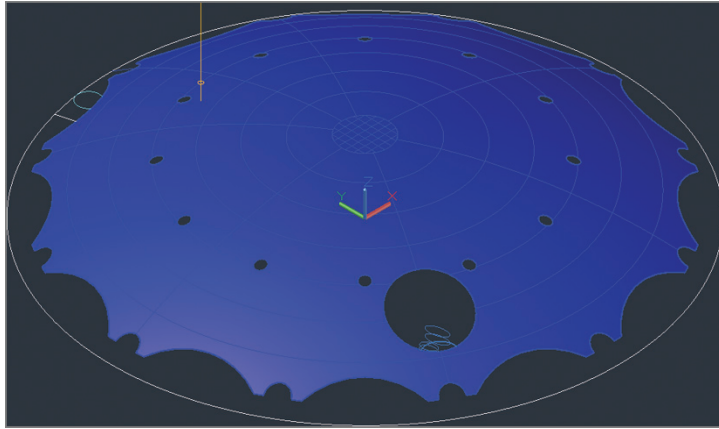

FIGURE 17.15 Trimming holes in the dome to accommodate the masts
- 6.** Hover the cursor over the Layer Properties Manager's title bar to reveal the palette. Double-click the Cylindrical Towers layer's icon to set it as current. Toggle off the Dome Voids layer. Figure 17.15 shows the result.